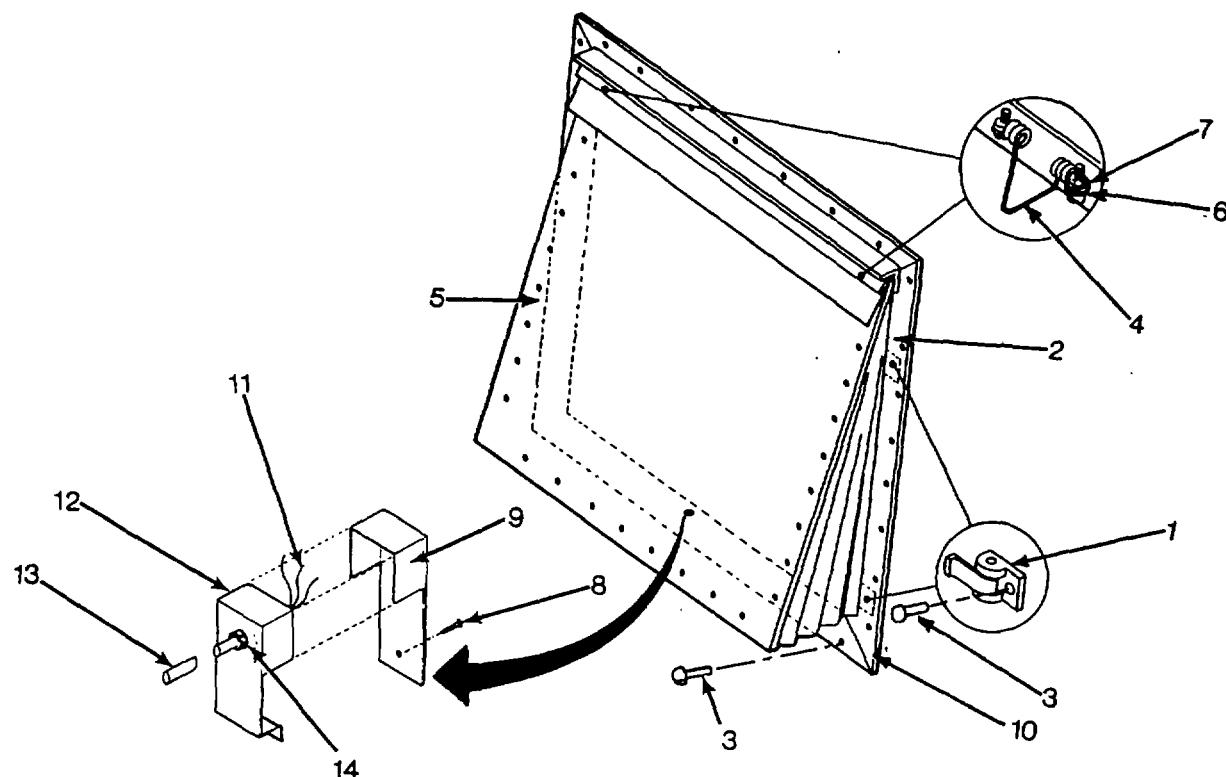

Figure 4-2. Cargo Door Vent Assemblies
- (4) Loosen nuts (8) on load and line cable conduits and pull cables out of islatrol control box (9).
- (5) Remove screws (10), lockwashers (11), flat washers (12), and islatrol control box.
- (6) Install replacement islatrol control box (9) and secure with flat washers (12), lockwashers (11), and screws (10).
- (7) Install load and line cable conduits and tighten nut (8).
- (8) Connect ground wires to grounding lug (7).
- (9) Install wires (2) on load terminal board (4) and secure with screws (6). Remove wire tags.
- (10) Install wires (2) on line terminal board (3) and secure with screws (5). Remove wire tags.
- (11) Close control box door cover (1).
- (12) Place printing press circuit breaker on power distribution panel in ON position.
- (13) Operate printing press.
- 4-13. **CARGO DOOR VENT ASSEMBLY.** Refer to figure 4-2 for location of components and hardware of cargo door vent assemblies.